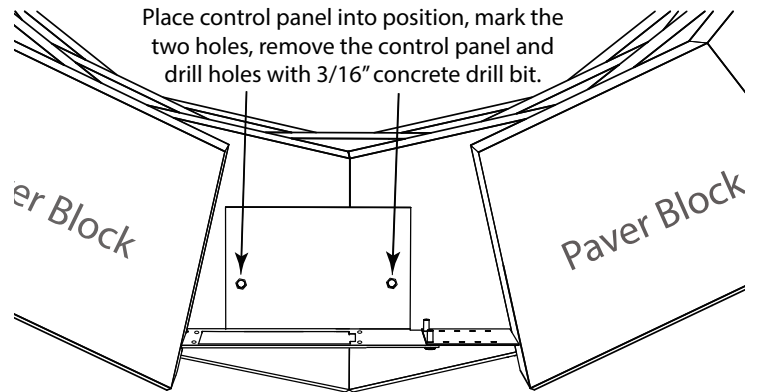

Fig. 4 Top view of control panel securing into the paver block.
STEP 3: After you have determined the location and measured the width to install the Paver Kit control panel mark the inside of the control panel as shown in figure 4.